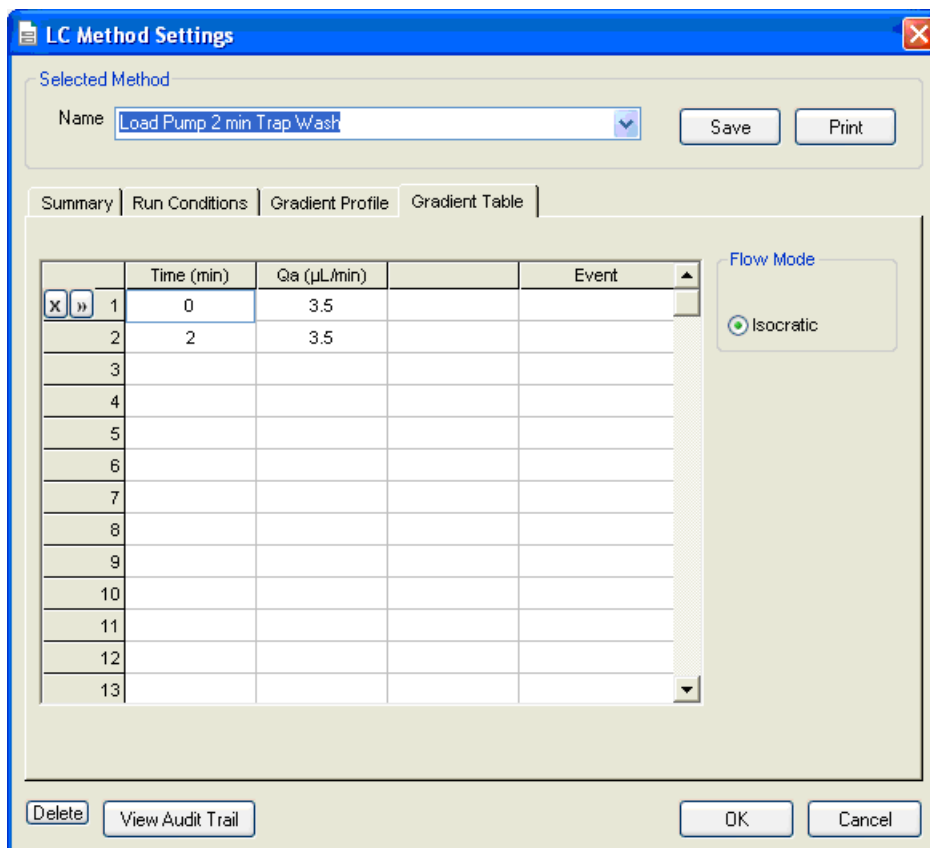

Figure 2-3 LC Method Settings dialog—Gradient Table tab
- On the **Gradient Table** tab, revise the method for the loading pump (the loading pump will be the pump with the microflow module), as shown in Figure 2-3.